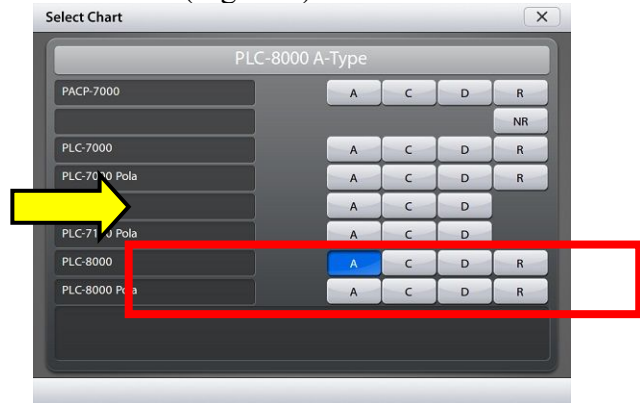

Figure 4
- Touch the Select Chart to go to the Select Chart menu (Figure 4).
- Select PLC-8000, PLC-8000 Pola and chart type (A, C, D, R) according to the product you are using.(Figure 4) and touch 'X' then PDR-7000 will restart the program to apply the setting.